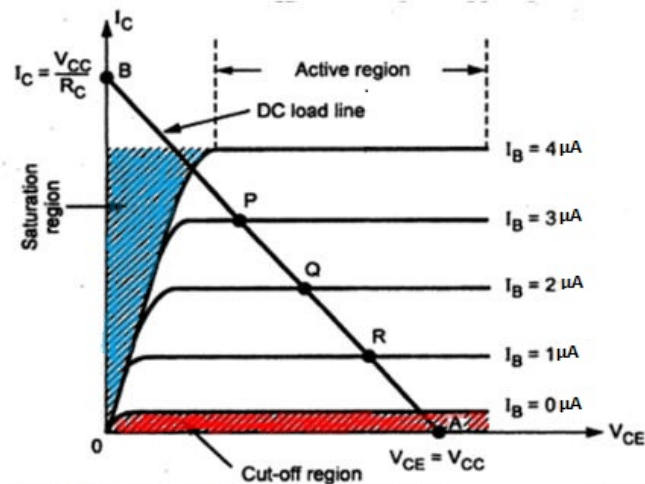

Fig. 2. CE output characteristic with dc load line
2.2. Transistor characteristic—For CE configuration the output characteristic represents the relation between V_{CE} and I_C for various I_B values (Fig:2). The nature of this characteristic is relevant in the proper designing of amplifier circuits. In the output characteristic of a transistor, we can identify three different regions - saturation region, active region and cut off region.¹
(1) When the collector current $I_C = 0$, Collector emitter voltage V_{CE} is $V_{CE_{max}} = V_{CC}$ This gives the cut-off point A in the output graph shown in Fig:2.
(2) When collector emitter voltage $V_{CE_{max}}=0$, collector current is maximum, and $I_{C_{max}} = \frac{V_{CC}}{R_C}$ and this gives point B in the output graph shown in Fig:2.